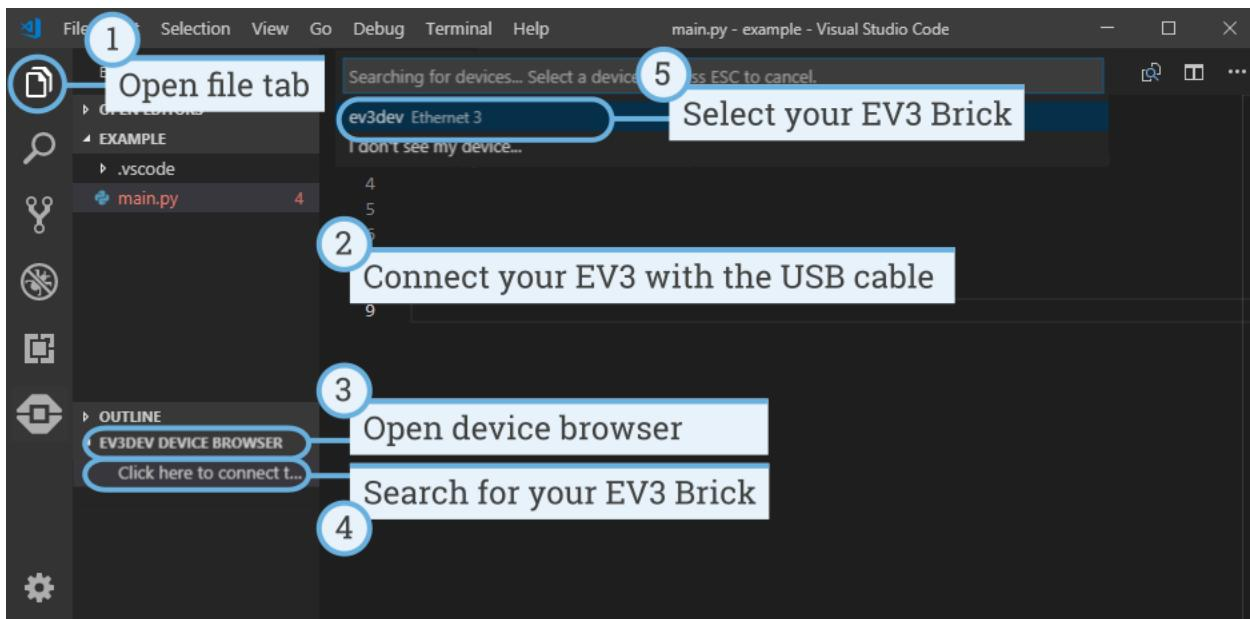

Figure 2.5: Configuring the USB connection between the computer and the EV3 Brick
- Configure the USB connection as shown in Figure 2.5.